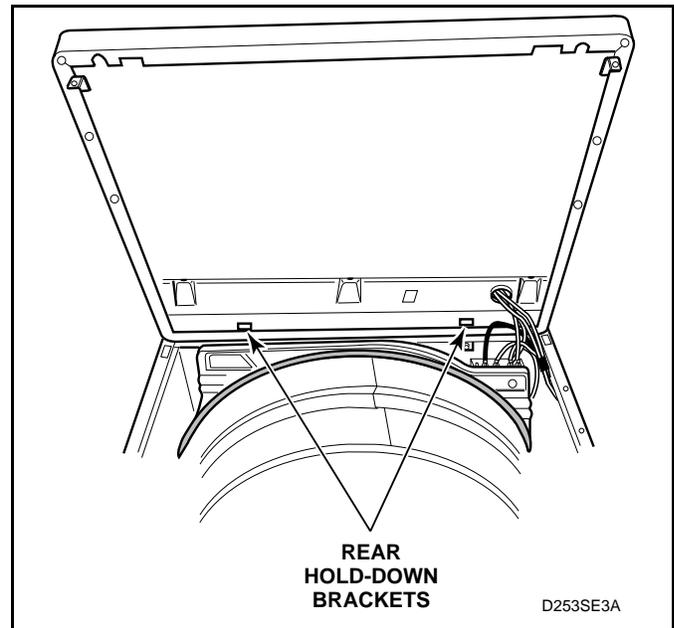

Figure 27
- n. Lift cabinet top to a vertical position by hinging it on the rear hold-down brackets. See *Figure 27*.
- o. Carefully withdraw the wire harness through hole in cabinet top and lift the entire cabinet top assembly off the rear hold-down brackets. See *Figure 27*.
- m. Lift cabinet top to a vertical position by hinging it on the rear hold-down brackets. See *Figure 27*.
- n. Carefully withdraw wire harness through hole in cabinet top and lift the entire cabinet top assembly off the rear hold-down brackets. See *Figure 27*.
- o. Carefully withdraw wire harness through hole in cabinet top and lift the entire cabinet top assembly off the rear hold-down brackets. See *Figure 27*.